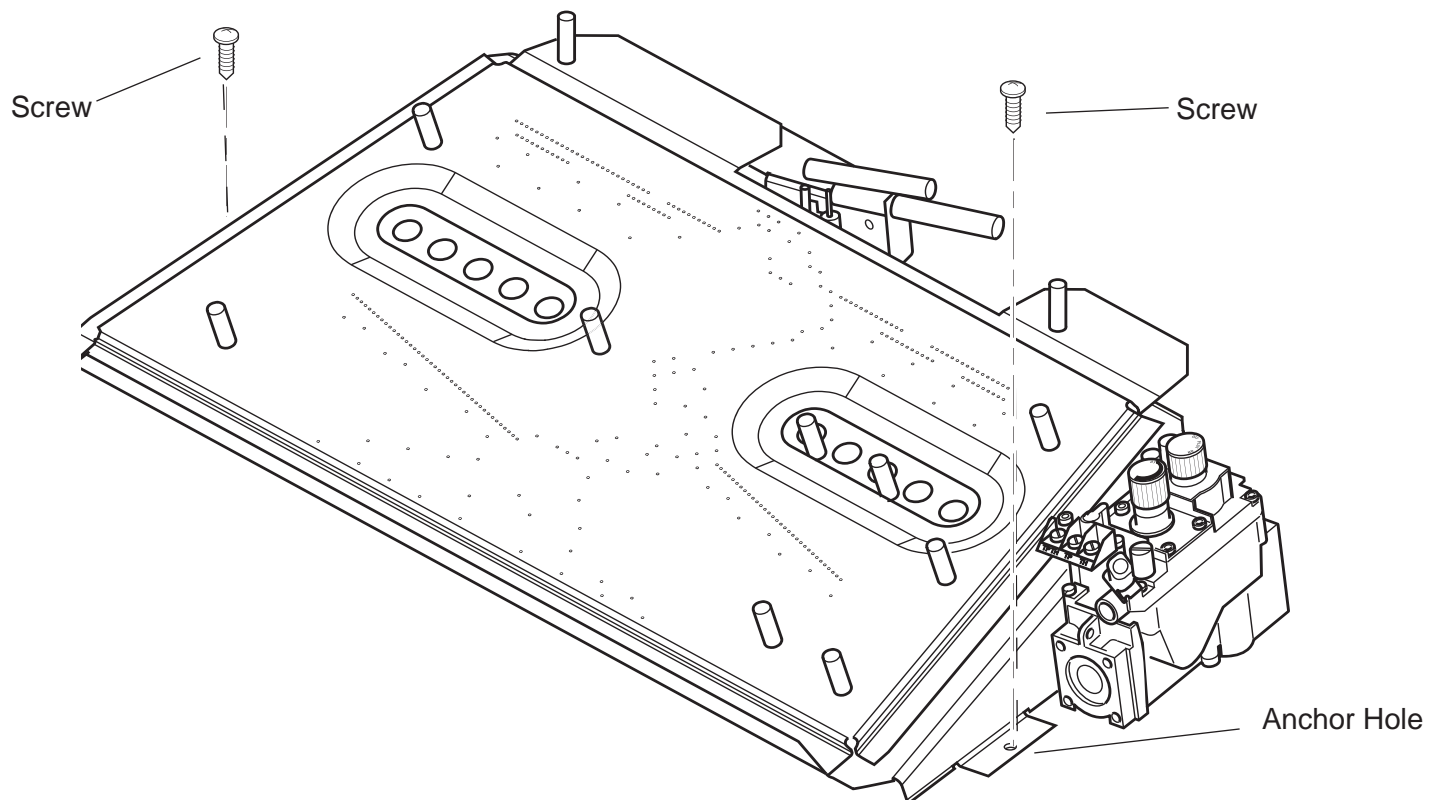

Figure 14 - Securing Heater to Floor of Fireplace/Firebox
2. Anchor holes are located on the right and left sides of the unit. After centering the burner correctly, mark the hole positions on the fireplace/firebox floor. Drill two (2) $\frac{5}{32}$ " diameter holes approximately $1\frac{1}{2}$ " deep.
3. Anchor the burner to the fireplace/firebox floor using the screws provided. *See Figure 14.*